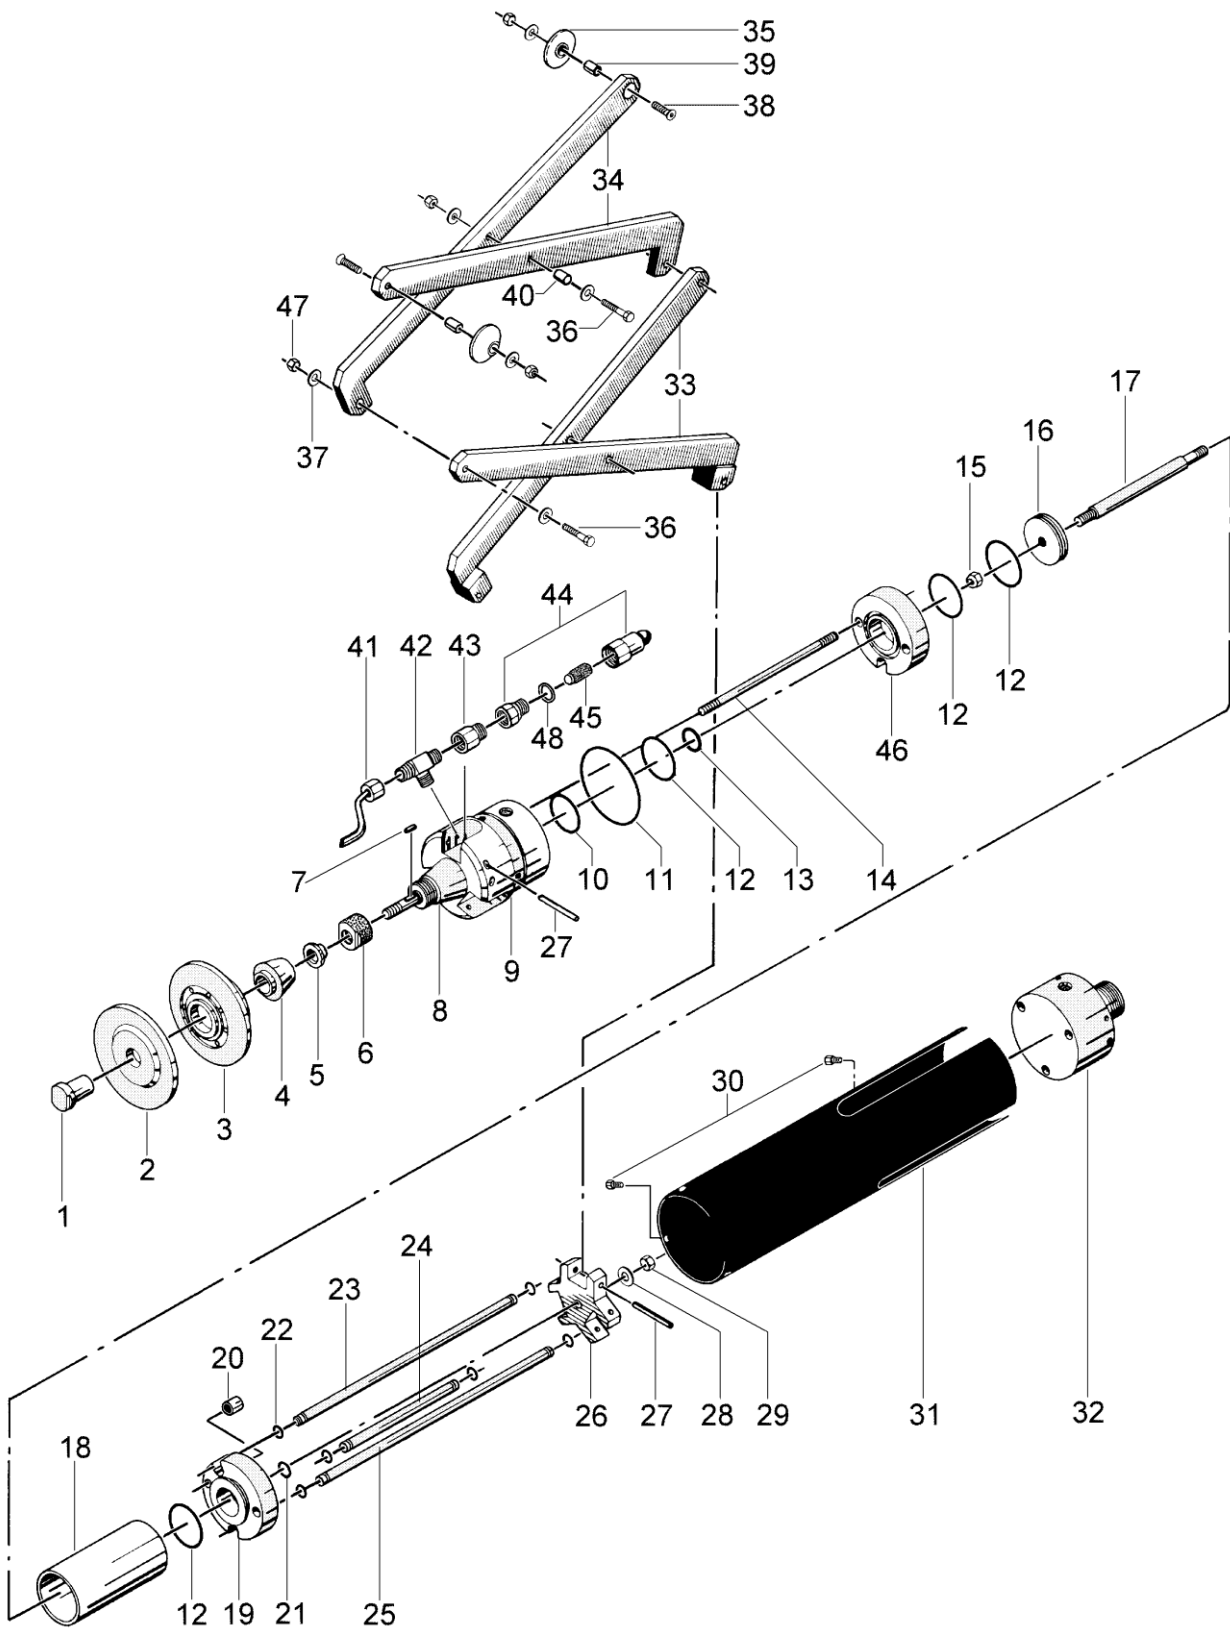

Figure 3
6.3 PIPECOATER-II Tool, less Hoses and Gun (see Figure 3, page 8) 71025